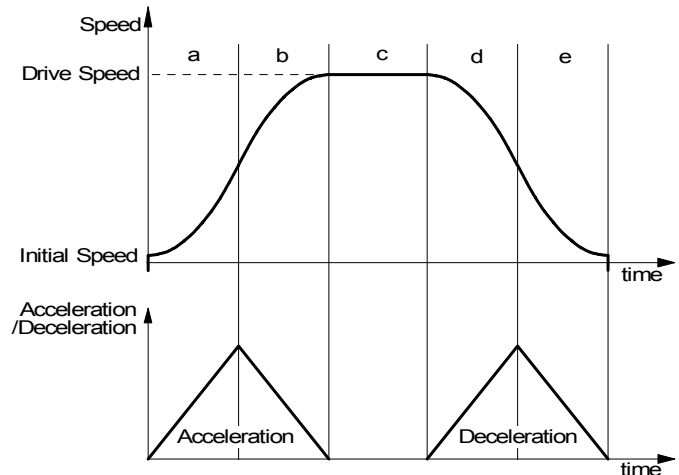

Fig. 2.13 Symmetrical S-Curve Acceleration/Deceleration Driving
Figure 2.13 shows the operation of S-curve acceleration/deceleration driving where the acceleration and the deceleration are symmetrical. When driving starts, the acceleration increases on a straight line at the specified jerk (K). In this case, the speed data forms a secondary parabolic curve (section a). If the difference between the specified drive speed (V) and the current speed becomes less than the speed that was utilized at the increase of acceleration, the acceleration starts to decrease towards 0. The decrease ratio is the same as the increase ratio and the acceleration decreases in a linear form of the specified jerk (K). In this case, the rate curve forms a parabola of reverse direction (section b).